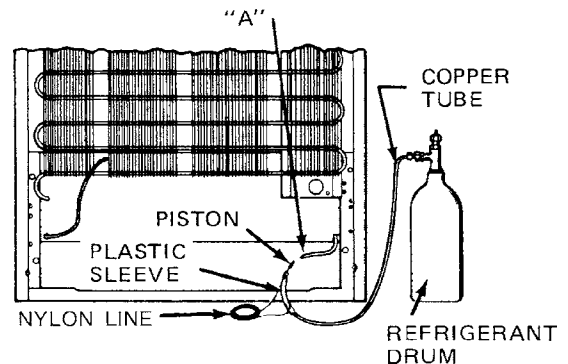

Fig. 12-20 An older technique using vapor pressure from refrigerant drum to blow the piston and nylon assembly through the hot tube. (Kelvinator)
- Insert the piston into the hot tube A. Slide the plastic sleeve onto the hot tube A. Insert the $\frac{3}{8}$ in. OD copper tube into the opposite end of the plastic sleeve. Install a flare nut on the copper tube and flare the tube. Connect to the refrigerant drum. See Fig. 12-20.
9. Insert the piston into hot tube A. Slide the plastic sleeve onto hot tube A. Insert the $\frac{3}{16}$ in. OD copper tube into the opposite end of the plastic sleeve. Install a flare nut on the copper tube and flare tube. Connect to the refrigerant drum. See Fig. 12-20.